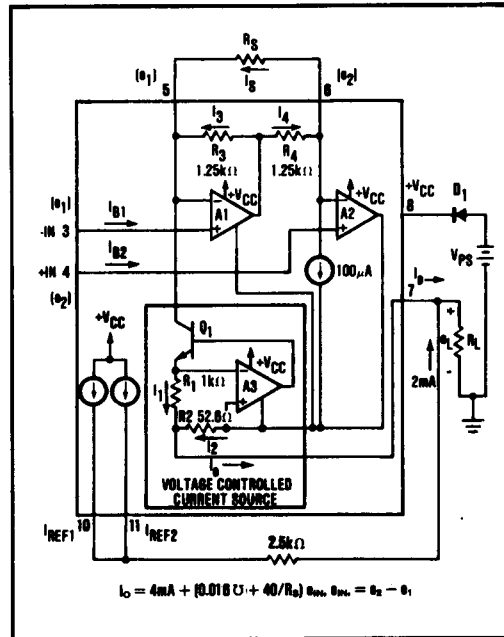

FIGURE 1. Simplified Schematic of the XTR100.
A simplified schematic of the XTR100 is shown in Figure 1. Basically the amplifiers, A₁ and A₂, act as an instrumentation amplifier controlling a current source, A₃ and Q₁. Operation is determined by an internal feedback loop. e₁ applied to pin 3 will also appear at pin 5 and similarly e₂ will appear at pin 6. Therefore the current in R_S, the span setting resistor, will be $I_S = (e_2 - e_1)/R_S = e_{IN}/R_S$. This current combines with the current, I₃, to form I₁. The circuit is configured such that I₂ is 19 times I₁. From this point the derivation of the transfer function is straightforward but lengthy. The result is shown in Figure 1.
7. It is recommended that a reverse polarity protection diode (D_1 in Figure 1) be used. This will prevent damage to the XTR100 caused by momentary (e.g., transient) or long term application of the wrong polarity of voltage between pins 7 and 8.